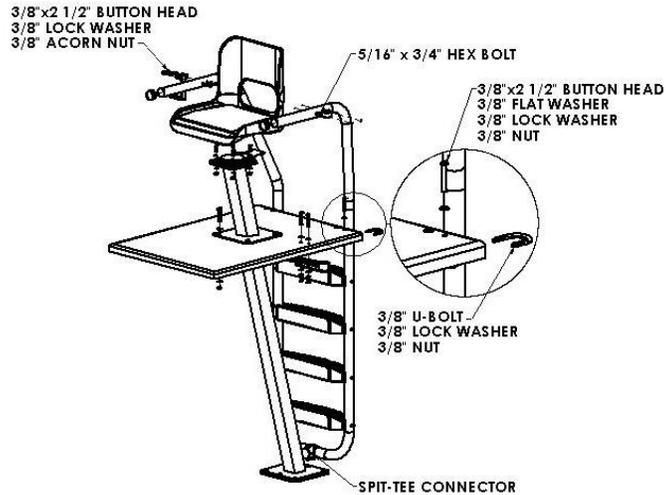

Figure 4
Step 3. Locate the Ladder-Handrail Assembly. Attach the Ring Buoy Holder and Upper Umbrella Holder to the Handrail using the hardware shown below in Figure 4. Attach the
Ladder-Handrail Assembly to the Platform and Support Column using the hardware shown in Figure 4.